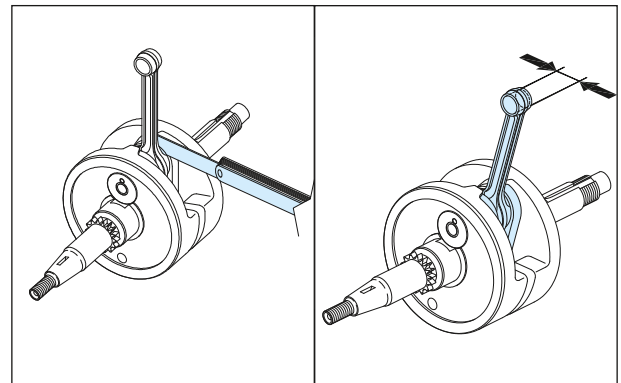

Fig. 3.94
- Measure the connecting rod big end side clearance with a feeler gauge. If the clearance exceeds the service limit, replace the crankshaft assembly with a new one. (Fig. 3.94)
- Measure the internal diameter (I.D) of the connecting rod small end. If the I.D is more than the service limit, replace the crankshaft with a new one. (Fig. 3.94)